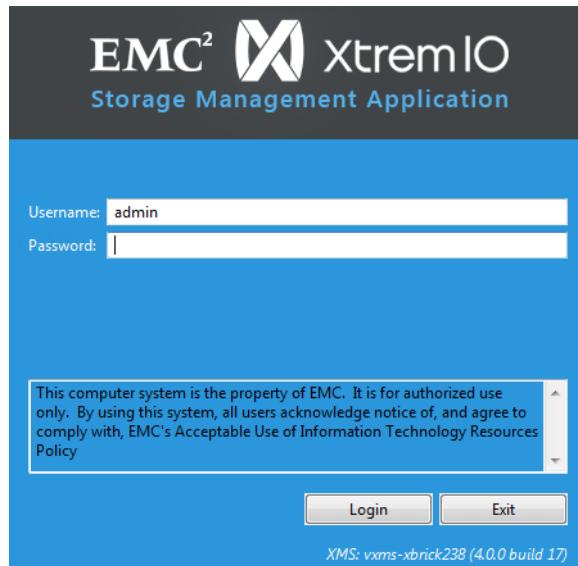

Figure 13 Login Screen
14. Wait for the application to load; the Login screen appears, as shown in Figure 13.